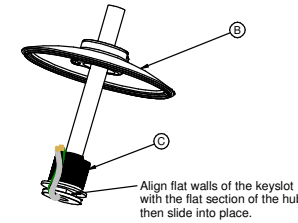

FIGURE 3
12. Tighten Set Screw (G) to secure hook from loosening.
**INSTALLING PENDANT MOUNT (See Figures 3 and 4):**
1. Loosen the Pendant Cover (B) and Hub (C) as shown.
3. Assemble the Pendant Cover (B) by sliding it onto the 3/4" or 1" conduit through the center hole. For ease of assembly, a clamp or vise-grips can be used to help hold the pendant top in place (place the clamp/vise-grips on the conduit below the cover and then let the cover rest on the clamp/vise-grips).
4. Apply Teflon tape to the male (external) conduit/pendant thread as well as the male (external) threads of the Hub (C).
5. Insert the supply wires from the conduit through the Hub (C) and thread the hub onto the 3/4" or 1" conduit.
6. Supply wires should be pulled up tight against the Hub (C) and temporarily taped to the outside of the Hub (C) (See Figure 3).
7. Note the orientation of the two "flat" surfaces on the Hub (C) and then lift the fixture to Hub (C), making sure that the keyhole slot in the driver housing is in alignment with the Hub (C) (See Figure 3).
8. Slide the fixture back to its original position (centered on the Hub (C)).
10. Remove clamp/vise-grips that are being used to hold the pendant cover out of the way and allow the pendant cover to drop to the threaded Hub (C).
11. Begin rotating the pendant cover counter-clockwise to "tighten" it on the threaded Hub (C). Once contact is made between the pendant cover and the driver housing/fixture, it may then become easier to turn the fixture itself (clockwise) to continue tightening and sealing the fixture.
12. Once completely assembled and sealed, tighten Set Screw (F) to secure pendant/conduit from loosening.